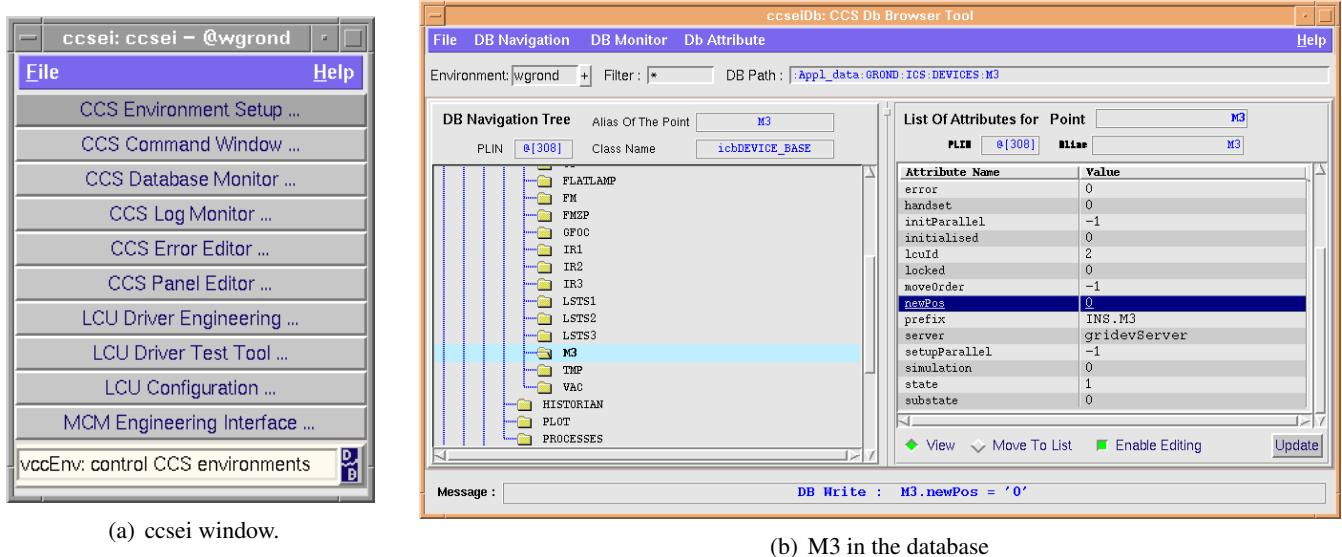

Figure 10.10: Writing the M3 position in the database
- Write the mirror position in the database (Fig. 10.10, p. 92)